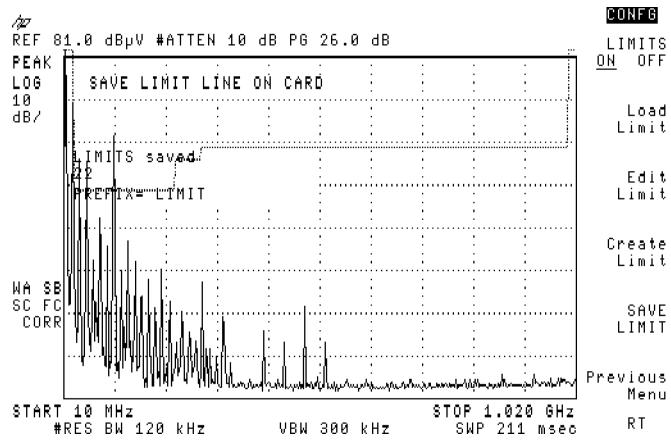

Figure 3-73. Saving Limit Lines in Register 22
- Press 22, **ENTER** (same as the **Hz** key in the analyzer's lower-right corner), to save the limit line in register 22. Notice that the prefix on the card will be **LIMIT**. See Figure 3-73. The limit line is saved on the card as **LLIMIT_22**. To change the file's prefix, refer to "Changing a File's Prefix," in this section.